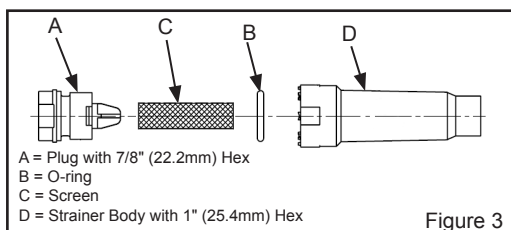

Figure 3
3. **Water Flow:** Confirm proper water flow. If water flow is slow, inspect filter or inline strainer for restriction. Replace filter cartridge if required. Disassemble inline strainer and clean if required. See Figure 3.